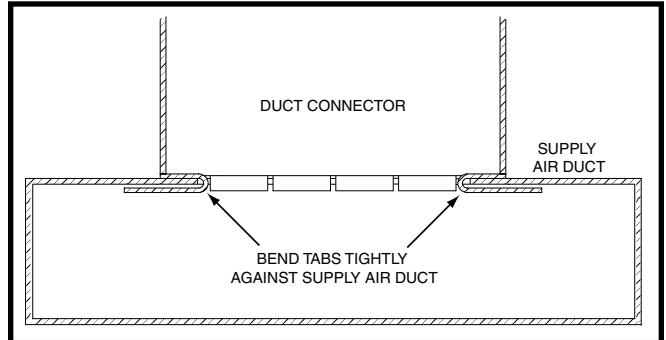

Figure 10. Duct Connector Tabs
- Bend both tabs up 90° on the mounting plate. See Figure 10 (page 7).